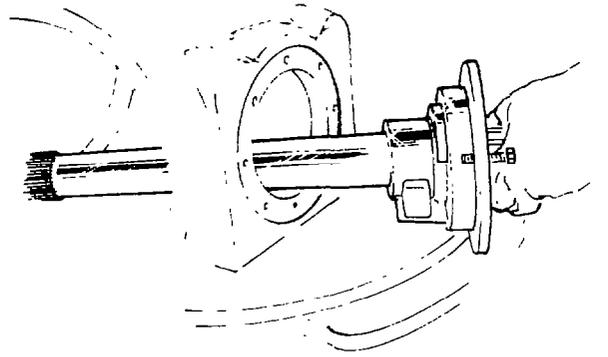

Fig. 274 — Removing Through Shaft and Bearing Assembly
- n. Remove the through shaft and bearing assembly from the retainer assembly (see fig. 274).